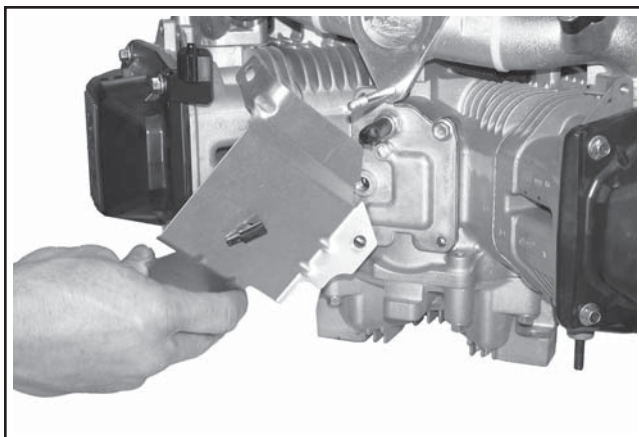

Figure 10-51. Installing Inner Baffles.
4. Install the inner baffles using the remaining two hex flange screws (see Figures 10-51 and 10-52) and finger tighten. **Do not** torque the screws at this time; they will be tightened after the blower housing and outer baffles are installed.